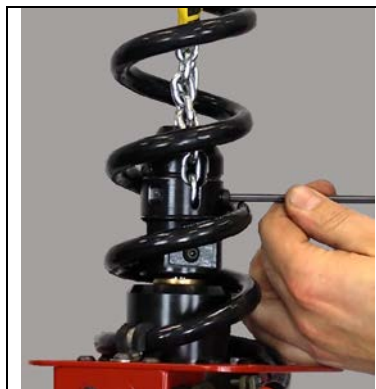

Figure 4-16
Step 29. Next, the last link of the SDS chain is installed into the bottom slot of the chain nest. The chain must be kept parallel with no twists. The bolt is installed through the last link of the SDS and into the chain nest. (Refer to Figure 4-16)